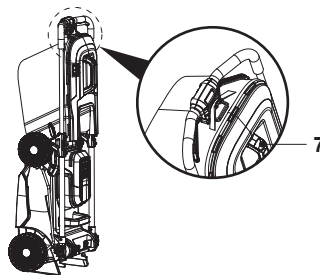

Fig. 25
8. It's recommended to store the mower with the grass catcher (7) hooked on the mower and the mulching insert (23) installed in the mower (Fig. 25).